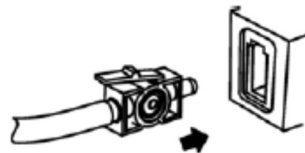

Figure 1
1. The sample cell of the sampling kit must be inserted into the sample cell receptacle of the LoFlo CO₂ Module as shown in Figure 1. A "click" will be heard when the sample cell is properly inserted.